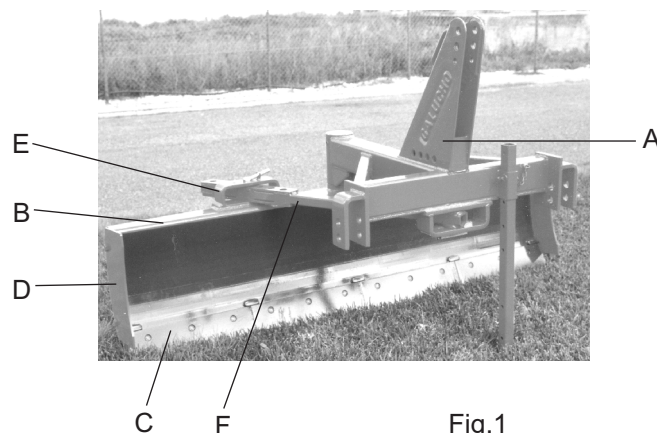
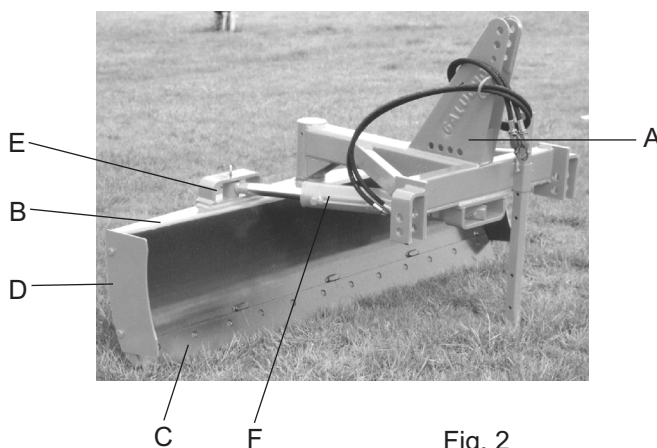

Fig.1
Fig. 2
- **HEADSTOCK** (Fig.1-A and 2-A) with several adjustments for three point linkage to the tractor;
- **BLADE** (Fig.1-B and 2-B) with variable width depending on the model, equipped with cutting blades (Fig.1-C and 2-C), side flaps (Fig.1-D and 2-D) and one "U" shaped spacer support or hydraulic cylinder (Fig.1-E and 2-E);
- **ARM ROD or HYDRAULIC CYLINDER** (Fig.1-F or 2-F) to obtain the horizontal work angle adjustment, by manual or hydraulic regulation.
Under titles of Figs. 1 and 2:
A- Headstock; **B-** Blade (set); **C-** Cutting blade; **D-** Side flaps; **E-** "U" shaped arm rod or hydraulic cylinder; **F-** Arm rod (Fig. 1) and Hydraulic cylinder (Fig. 2)
The side flaps (Fig. 1-D and 2-D) allow intensifying the blade capacity when the machine is moving or transporting soil or other materials. The side flaps must be dismounted whenever we want to spread aside the soil and also when it is necessary to clean soil gutters. The operator has only to unscrew the two screws that support each one of the side flaps.